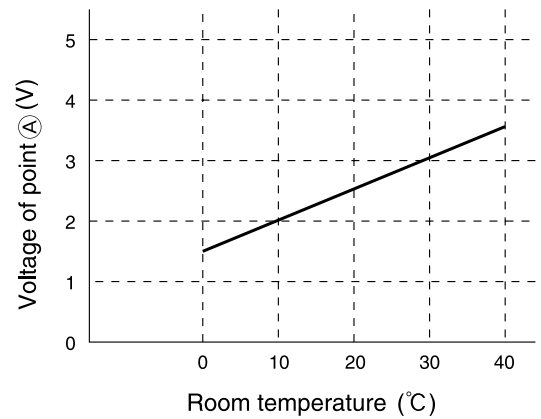

Fig. 3-2
According to room temperature, the voltage of point (A) becomes as it is shown in Fig.3-2.